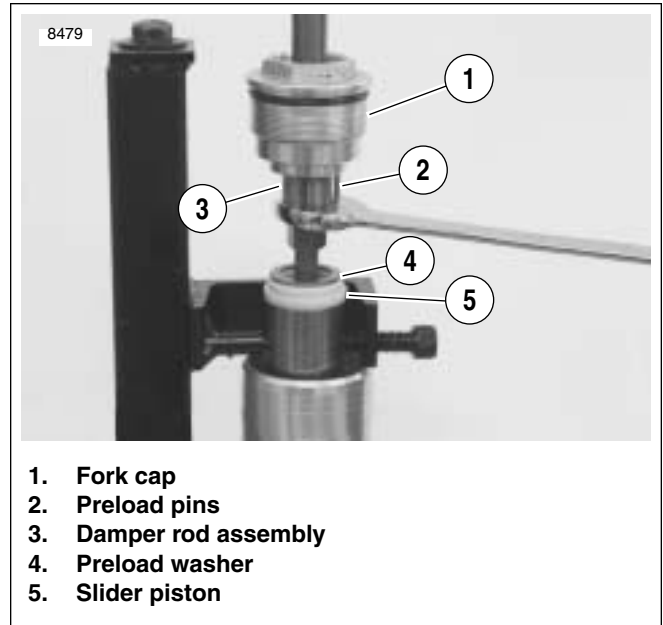

Figure 2-71. Holding Damper Rod Assembly
7. See Figure 2-71. Hold damper rod assembly (3) and remove fork cap (1).